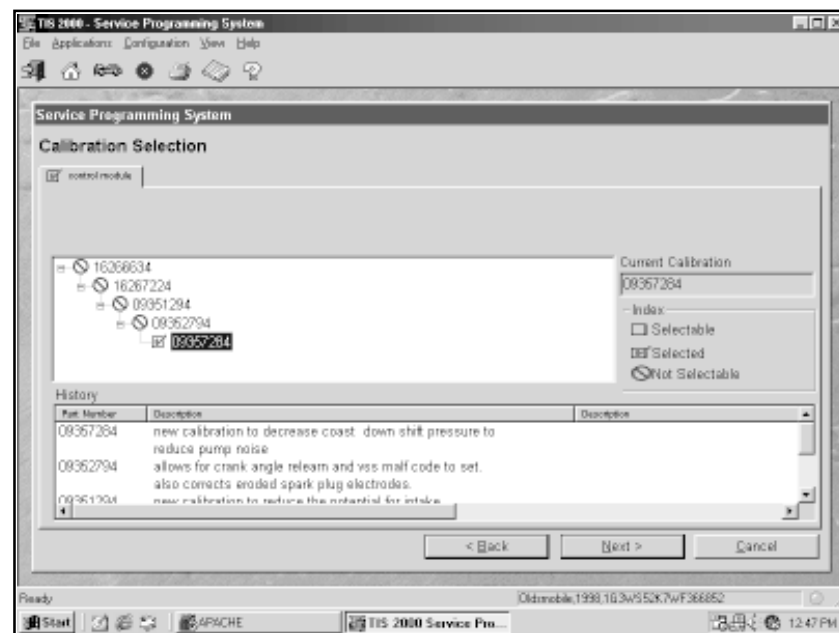

Figure I-9, PCM Calibration File Selection
- Vehicles with PCMs will display a screen similar to the one shown in Figure I-9 (shown on previous page). It contains a single tab that summarizes all calibration files for the vehicle.